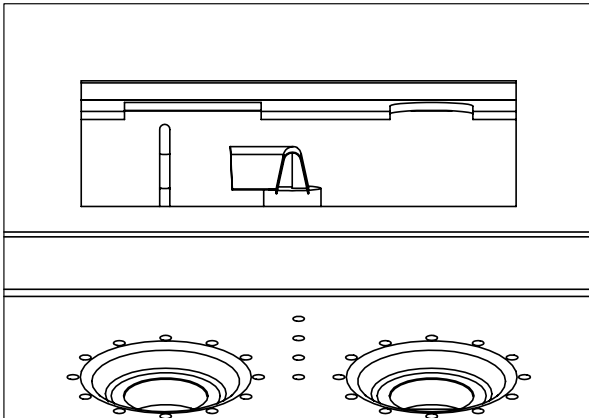

Figure 23: Pilot Orientation
4. Convert the existing pilot orifice using a 7/16 inch wrench. Loosen the pilot head, rotate counter clockwise and fully remove. Remove the existing orifice and replace with the one supplied in the kit (Figure 21). Re-install the pilot head and tighten back to its original position (Figure 23).